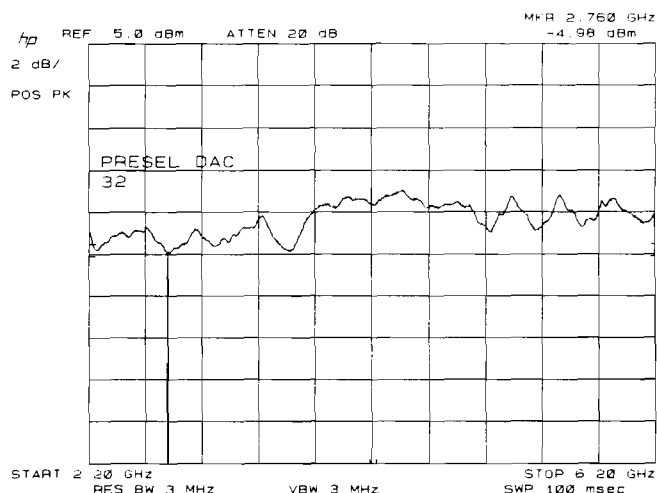

Figure 3-72.
20. On the Spectrum Analyzer (DUT), key in **(FREQUENCY SPAN)** 0 Hz, **(CF STEP SIZE)** 100 MHz, **(CENTER FREQUENCY)**. Using the DATA knob and step keys, tune the A11A3 YTO to position the TRACE A signal at the lowest point on the TRACE B waveform on the display of the second spectrum analyzer. See Figure 3-72. Key in **(SAVE)** 5 on the Spectrum Analyzer (DUT).
23. On the Spectrum Analyzer (DUT), key in **RECALL** 5, **CENTER FREQUENCY**. Use the DATA knob to tune the A11A3 YTO to position the TRACE A signal at the lowest point on the TRACE B waveform on the display of the second spectrum analyzer, as shown in Figure 3-72.